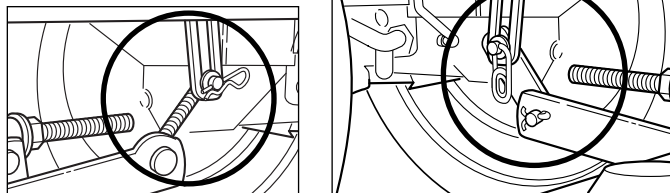

**Figure 5. Raising & Lowering Mower**
**Electric Height of Cut Models:** The cutting height adjustment switch (D, Figure 5) controls the mower cutting height. This same switch also controls the spout rotator motor when a snowthrower is installed. The arrows on the switch correspond to the direction of adjustment (UP arrow raises cutting height, RIGHT arrow rotates the spout right, etc). When the adjustment indicator has reached the end of its travel, release the switch; holding the switch down will damage the motor
**Manual Lift Models:** The cutting height adjustment knob (B, Figure 5) controls the mower cutting height. Turn the knob clockwise to raise the deck and counterclockwise to lower it.
2. Place mower height adjuster (B, Figures 5) in the lowest cutting position. Place the mower lift lever in the lowest position, also. Slide mower deck under right side of tractor so that mower hitch is aligned with the front tractor hitch.